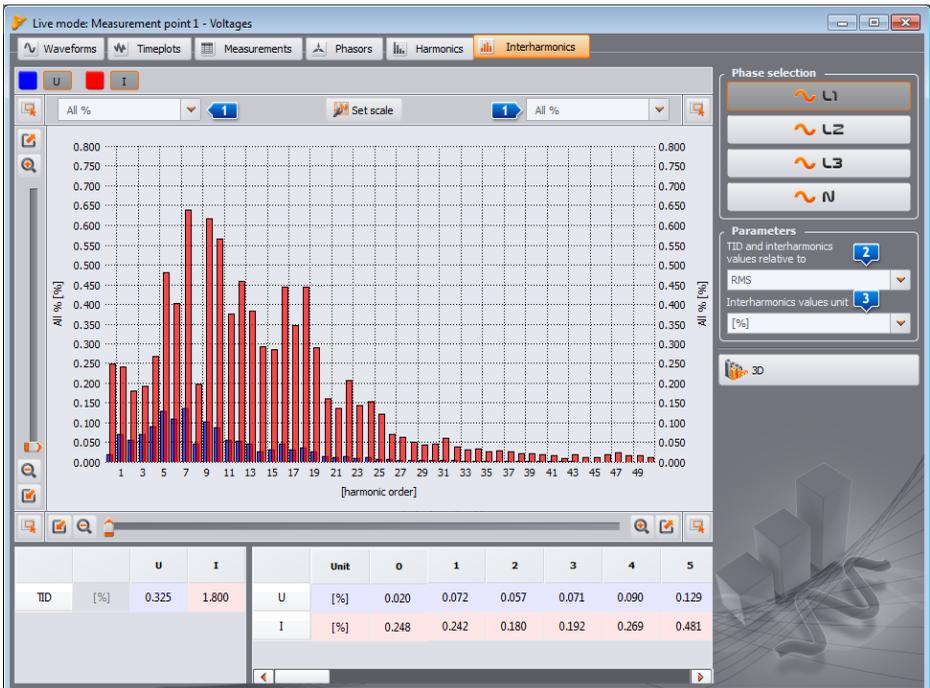

Fig. 54. Interharmonics graph.
**INTERHARMONICS** tab enables the view of interharmonics values of voltage and current and TID factors. A sample screen is shown in Fig. 54. Parameters are displayed for one phase, which is selected by buttons on the right.